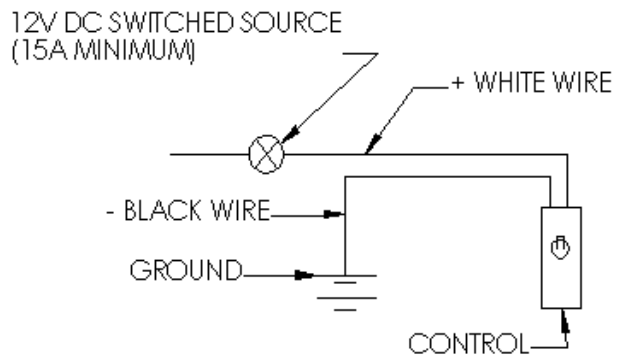

Figure 12: Preferred Wire Attachment Method
The preferred method for attaching the control box to the tractor is to use a 12V switched source as shown in Figure 12.
**NOTE:** Figure 12 shows the preferred method of attachment and should be used if at all possible.